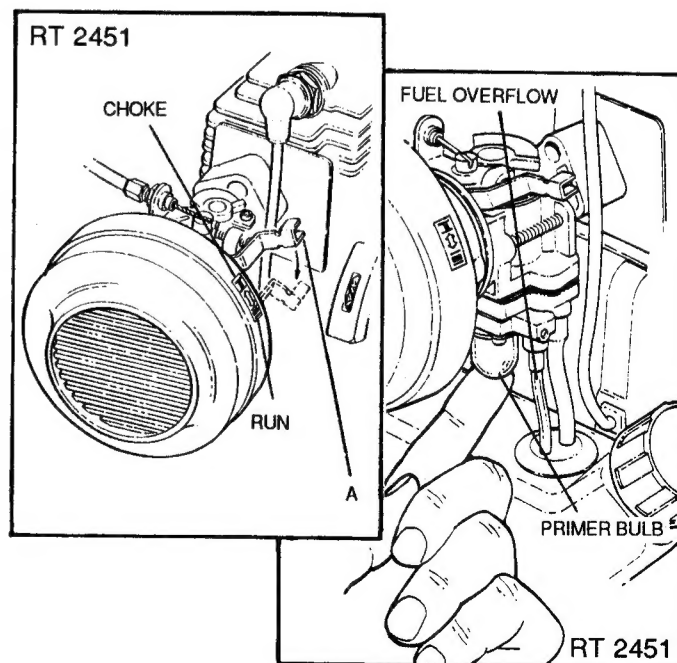

FIG. 4 - PRIMING THE ENGINE ON RT 2451
1. On the RT 2451, pump the primer bulb on the underside of CARBURETOR until fuel starts flowing through overflow tube as shown in FIG. 4. Priming is not required with a warm engine.